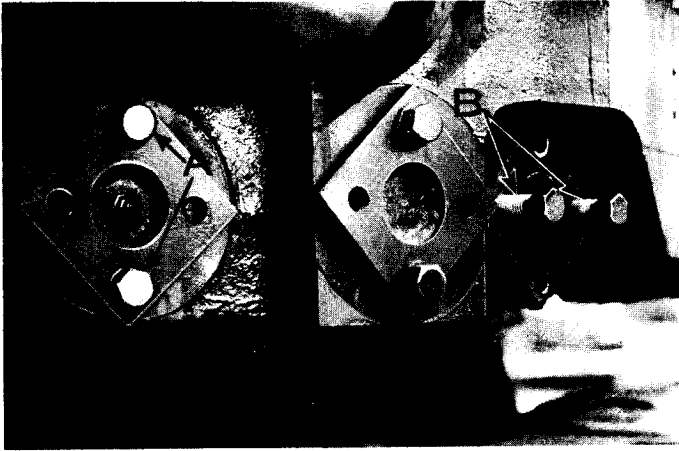

FIG. 4
5. Remove the cone roller pins if they were shipped in place on the Upper Works. See Fig. 4. Take out the cap screws "A" insert them in the tapped holes as shown at "B" and tighten them equally to start the pin out.
3. Take out the two cap screws "A" in the retainer plate at the end of each cone roller pin. (See Fig. 4, Section VII).